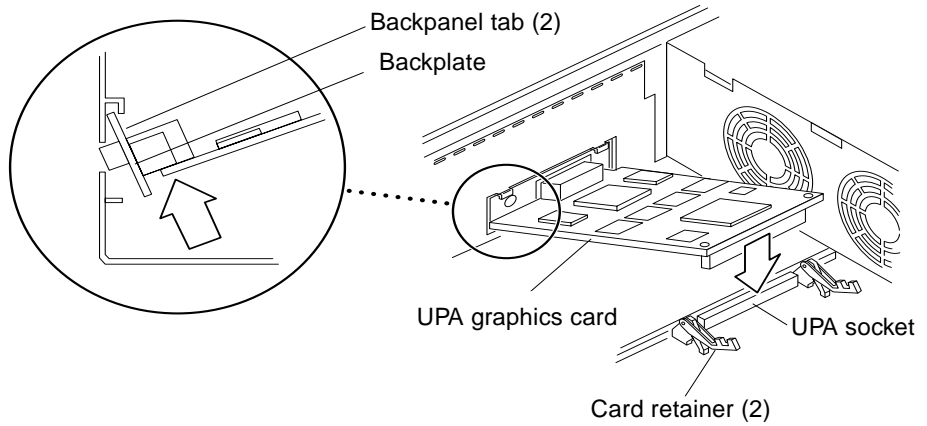

FIGURE 10-11 Replacing a UPA Graphics Card
1. **Verify that both card retainers are pushed back** (FIGURE 10-11).